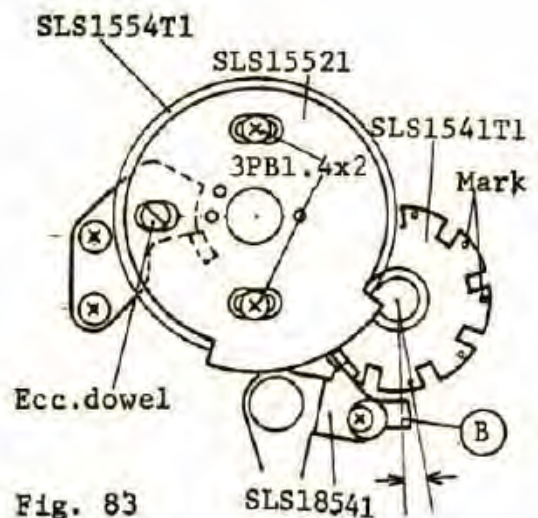

Fig. 83
- 1) When the exposure counter indicates to "S" (start), engage SLS1541T1 Dividing device with the SLS1554T1 Film counter gear as end (B) of the SLS15842 Stop lever should be determined as shown in Fig.83.
- 2) Fine adjustment is made by turning the ecc.dowel in the SLS1554T1 Film counter gear after loosening two screws 3PB1.4x2BNi as shown in Fig.83.